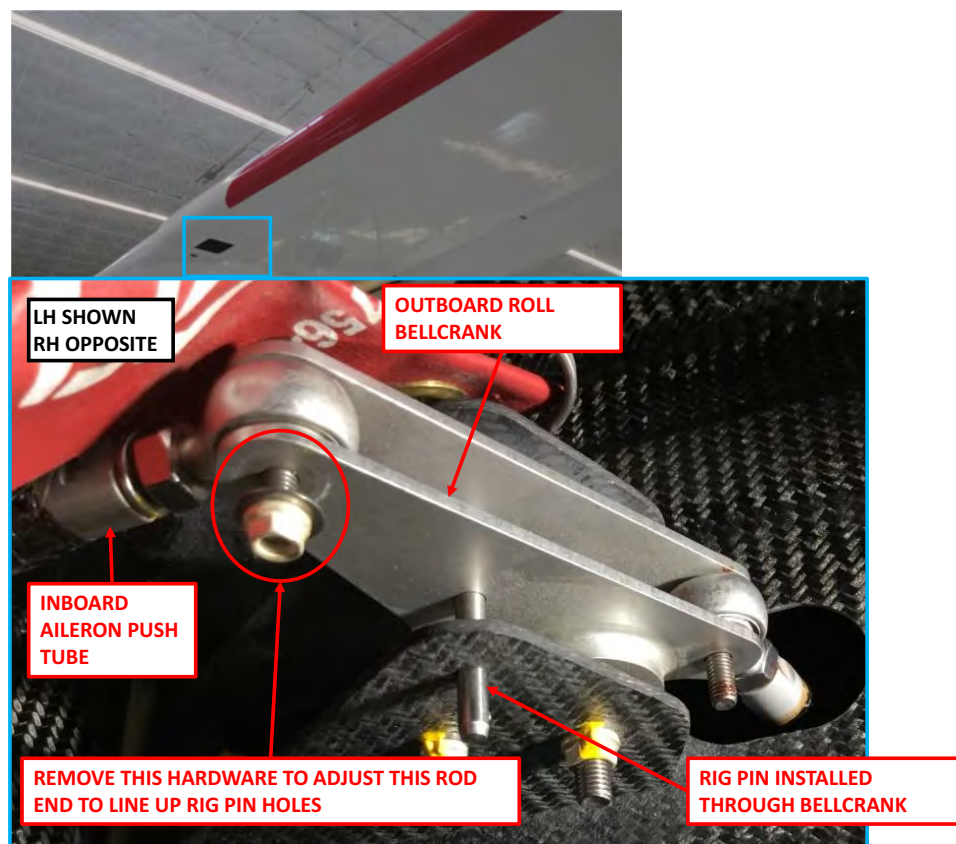

FIGURE 9-18
13. Install 2X .1875 in diameter rig pins through the outboard roll bellcranks. If the pin will not install, adjust length of inboard aileron push tube by adjusting rod end lengths as necessary to align the holes in the bracket and bellcrank. Adjust rod end lengths equally. Once adjusted, torque push tube jam nut to 60 inlbs. Torque through bolt and locking nut to 20 inlbs. See Figure 9-18.